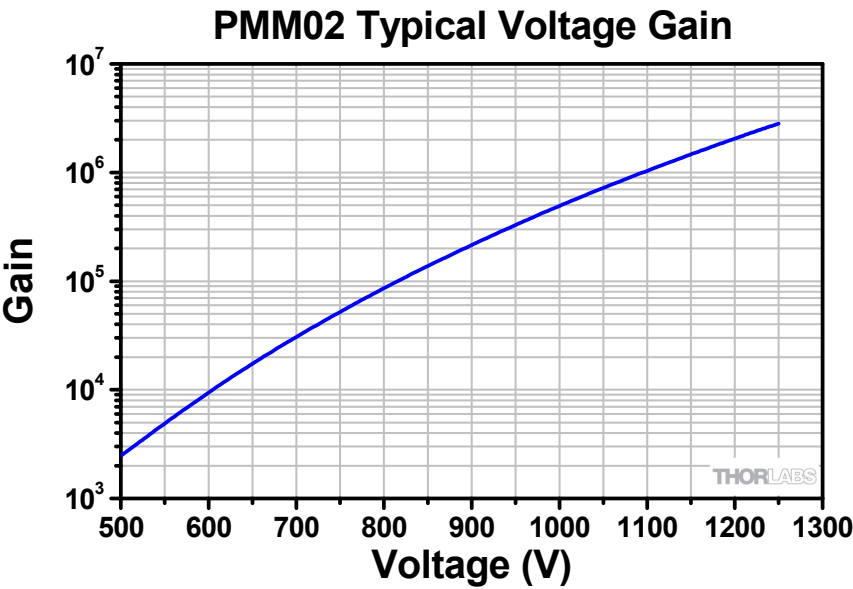

Figure 2 PMM02 Typical Voltage Gain Curve
- The light-to voltage conversion can be estimated by factoring the wavelength-dependent responsivity of the photomultiplier tube with the transimpedance gain, i.e., output (V/W) = transimpedance gain (V/A) x sensitivity (A/W) x tube gain. The tube gain can be estimated from Figure 2 and the supplied calibration.